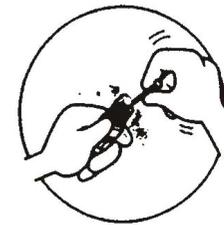

Figure 40
3.3 Check the spark plug, if the insulator is broken, have the spark plug replaced. Do away with carbon fouling around the spark plug with a metal brush. (Figure 40)